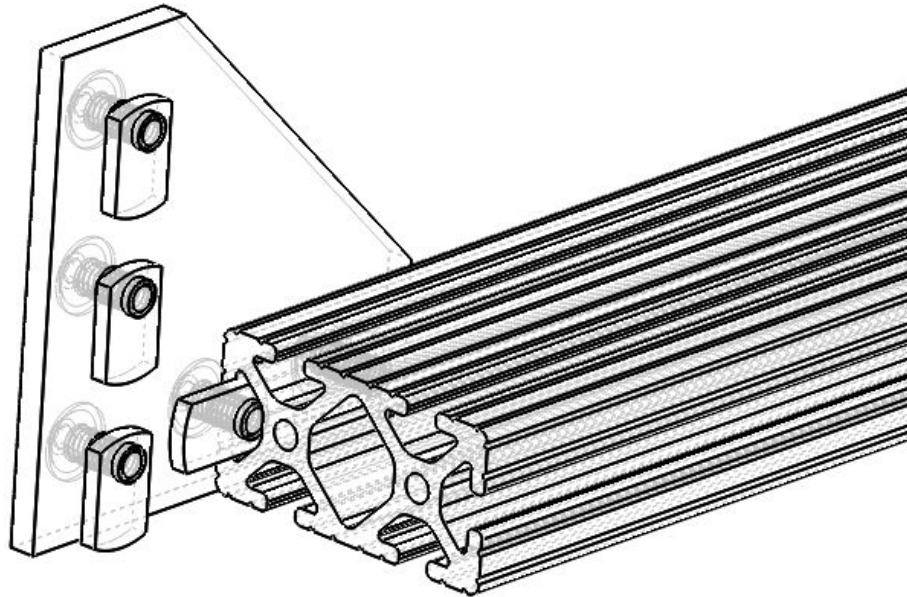

Fig. 3.19: Five holes corner bracket on 1-1/2" x 3" T-slotted frame
- ❑ The final assembly should look like the finished enclosure in Fig. 3.19